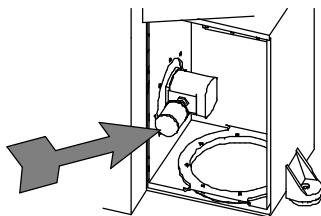

Fig. 21
- d) replace the hydraulic oil and relevant filter (code 01000133, tav. 4-5-6) every 8000 working hours (Fig. 21);